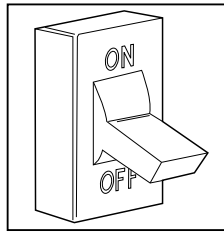

Fig. 5 – Turn Off Electrical Supply
3. Turn OFF electrical supply to the furnace, see Fig. 5.
3. Turn off electrical supply to the furnace, see Fig. 5.